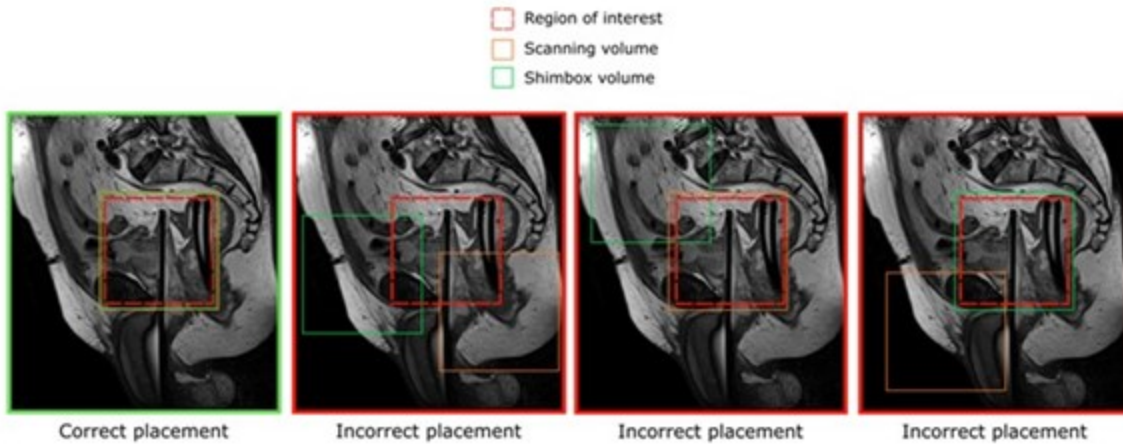

Figure 37: Examples of correct and incorrect placements of the shim box
1. **MRI Technologist:** Open AX THERM for editing in the **Offc/Ang** tab, change the AP, RL, and FH values for both *Stack Offc.* and *Ang* (Figure 38). to match those in TDC. Do the same for the shim volume. If the shim volume includes more than just the patient anatomy (such as air), reduce the size of the shim box (Figure 37).